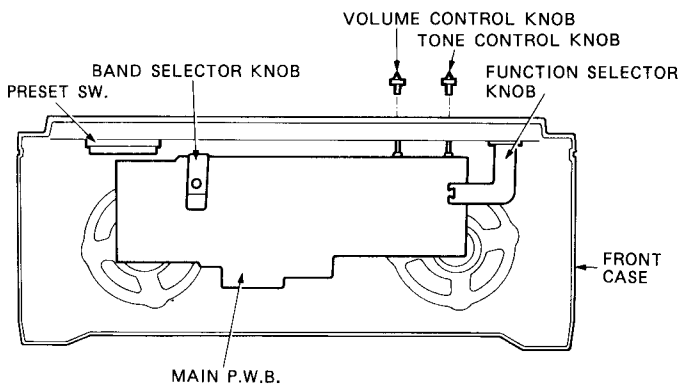

Fig. 3
3. Removing main P.W.B. (Fig. 3)